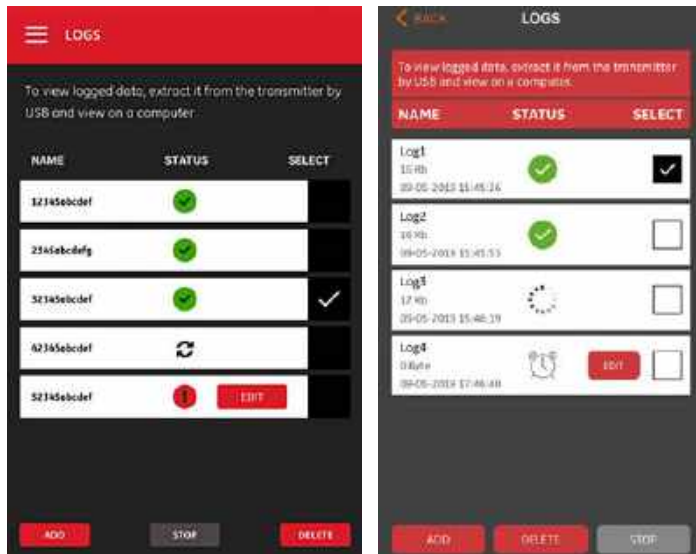

Figure 115: LOGS main menu
In the *logs* main menu (see Figure 115 below), all existing logs and their current status are listed. Each listed log may be edited, stopped or deleted, depending on their current status.
1. On the *logs* main menu (see Figure 115 on page 49, Click in the *select* column to the right of the log you wish to delete.
1. On the *logs* main menu (see Figure 115 on page 110), click in the *select* column to the right of the log you wish to stop.
1. On the *logs* main menu (Figure 115 on page 49, click in the *select* column to the right of the log you wish to edit.